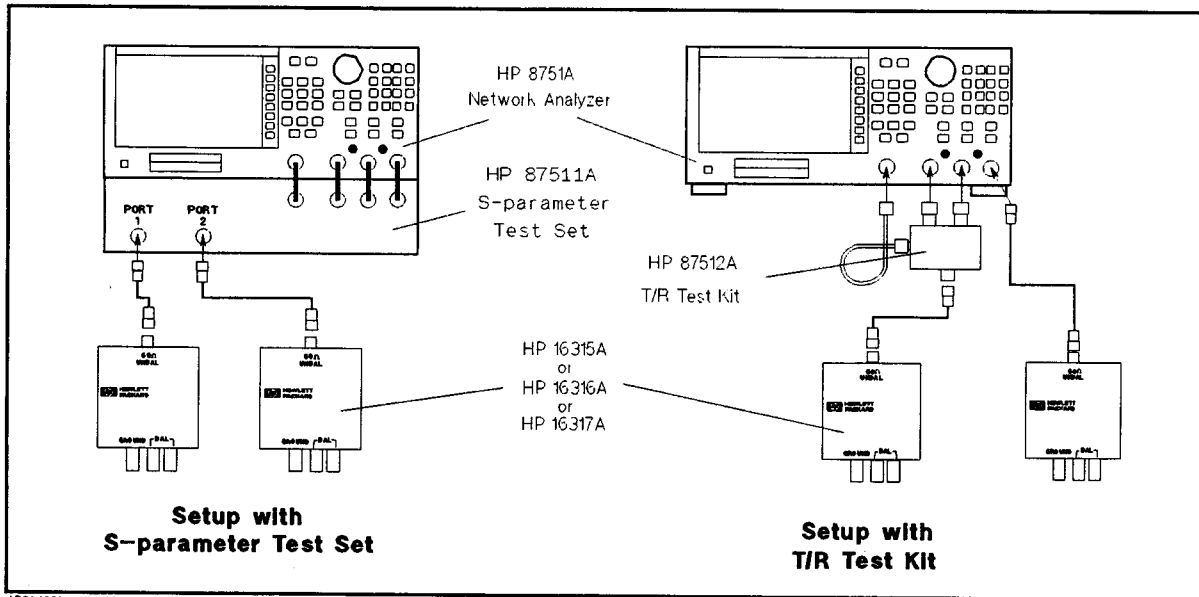
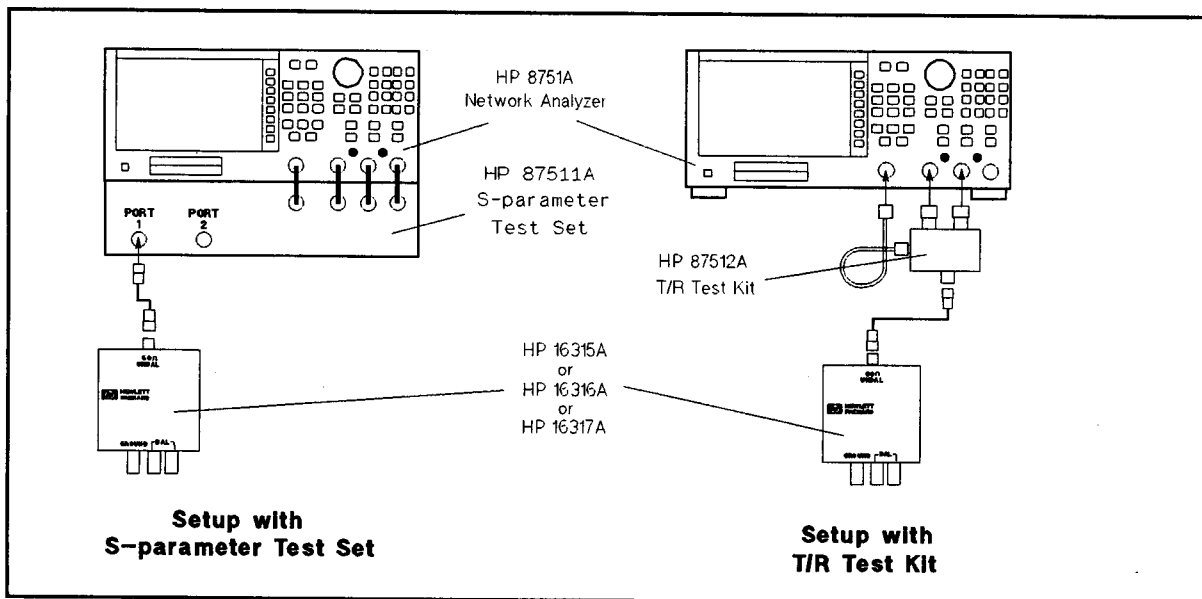

Figure 4-2. Connecting Converters for Transmission Measurement
Figure 4-3. Connecting Converters for Reflection Measurement
Figure 4-2 and Figure 4-3 show how to connect the 16315A/6A/7A to a network analyzer using an S-parameter test set or a T/R test kit. Shown below are two examples using the 8751A.
1. Connect the converter to the 8751A (see Figure 4-2).